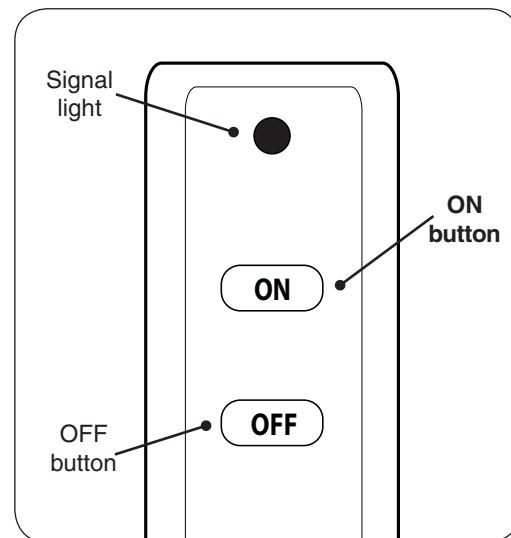

Fig. 41-2 Remote transmitter detail
2. Locate the remote transmitter and press the **ON** button (see Fig. 41-2). The ignition sequence will begin.